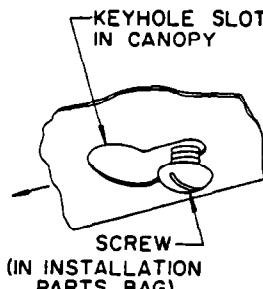

FIG. 2
4. Remove hood and start all four screws in center of narrow neck of keyhole slot marked on cabinet bottom. (Fig. 2).